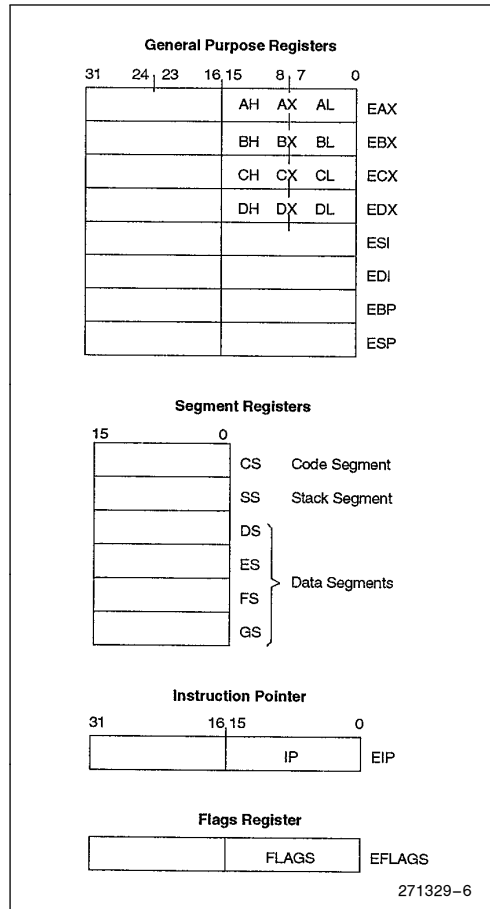

Figure 4-2. Base Architecture Registers
Figure 4-2 shows the Military Intel486 processor base architecture registers. The contents of these registers are task-specific and are automatically loaded with a new context upon a task switch operation.
The eight 32-bit general purpose registers are shown in Figure 4-2. These registers hold data or address quantities. The general purpose registers can support data operands of 1, 8, 16 and 32 bits, and bit fields of 1 to 32 bits. Address operands of 16 and 32 bits are supported. The 32-bit registers are named EAX, EBX, ECX, EDX, ESI, EDI, EBP and ESP.
The instruction pointer shown in Figure 4-2 is a 32-bit register named EIP. EIP holds the offset of the next instruction to be executed. The offset is always relative to the base of the code segment (CS). The lower 16 bits (bits 0–15) of the EIP contain the 16-bit instruction pointer named IP, which is used for 16-bit addressing.